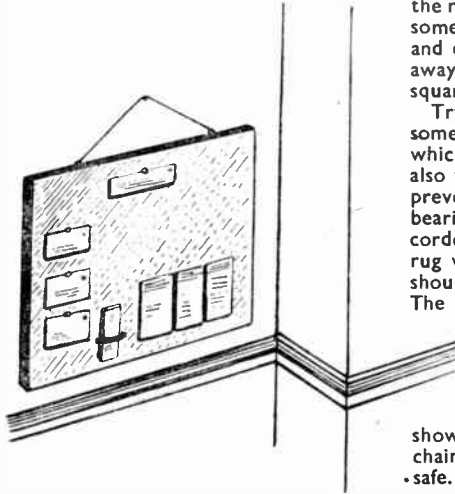

Fig. 1—The notice board in position
This is made in two movable parts. The first is a solid centre with a 5 ins. by ½ in. cross-section; the second is the tube or sleeve, into which the first slides, made of two pieces of 6 ins. wide plywood held apart at their outer edges by two lengths of ½ in. square wood. The tube is supported by a fillet of ½ in. square wood (E) underneath its open end. The two parts fit together as shown in Fig. 1.